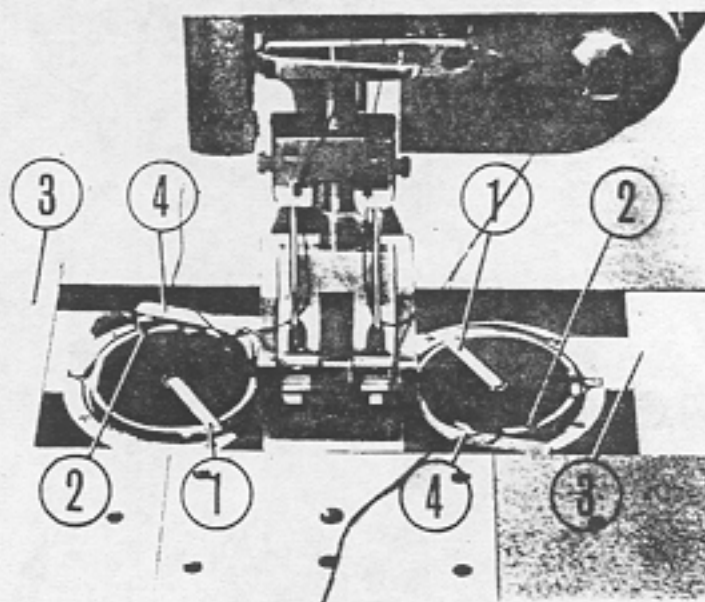

Fig. 8
This procedure applies to two bobbins, both right and left. Hold the bobbin between the thumb and forefinger with the thread drawing on the bottom from left to right and place it on the center stud of the bobbin case, then push down the latch (1), Fig. 8.
Open up the sliding plate and take out the throat plate, feed dog, and the bobbin case opener (Fig. 8 (4)).